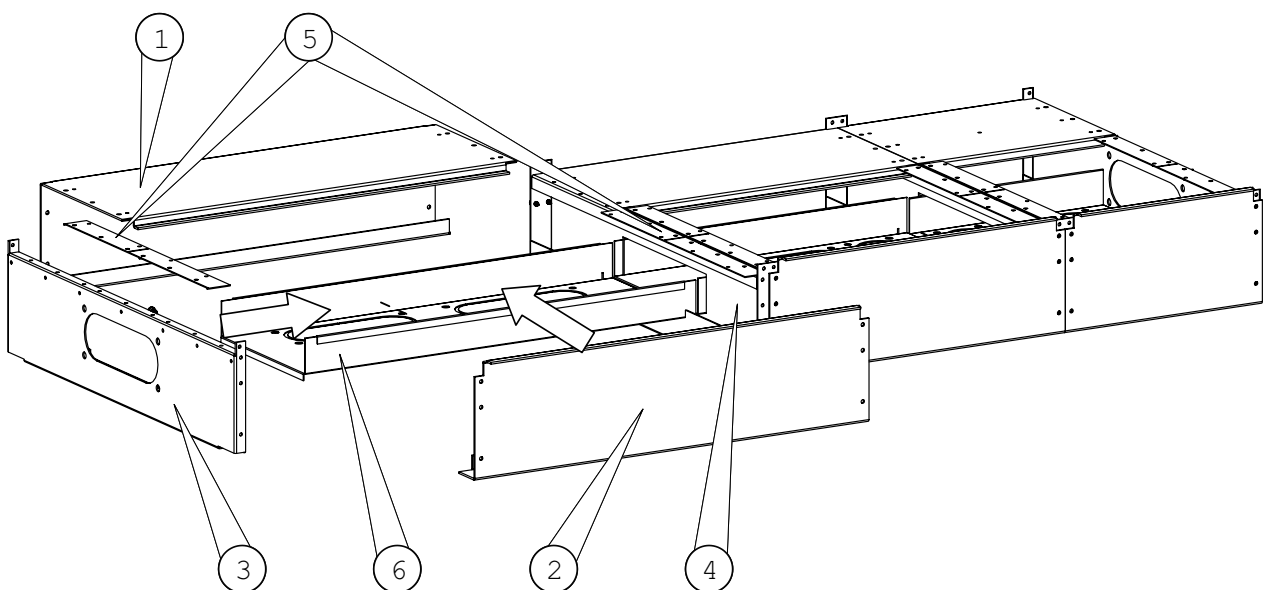

Fig. 2.1. Assembling a cell centre base with 610 mm nominal depth.
It is advisable to leave the bottom holes of the back (1) and front (2) panels for the possible installation of base fixing lugs. In particular you must remember to use intermediate beads (5) on top of the end (3) and divider (4) plates of the base. At this stage you can also install a cable conduit (6) for carrying cables, for instance. See Fig. 2.1.